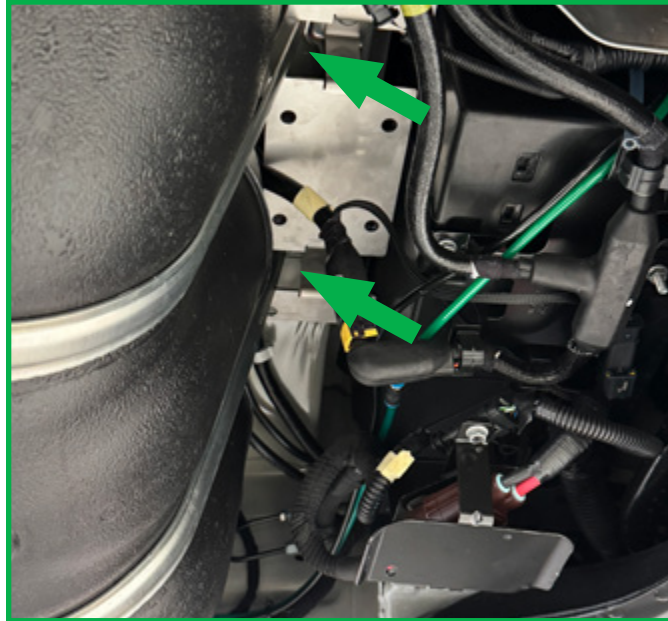

FIGURE 8
7. Flip in the adapter bracket between the bolt head and strap. Make sure the straps are well located in the cut out areas of the bracket. (Figure 8)